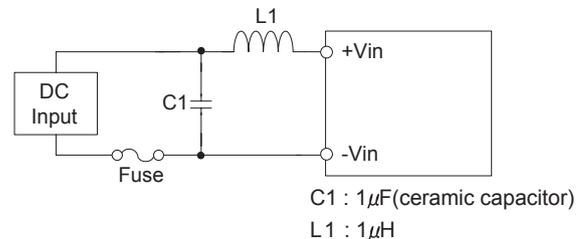

Fig.2.2 Recommended external input filter
(3) Conducted noise
■ Install an external input filter as shown in Fig.2.2 in order to reduce conducted noise.